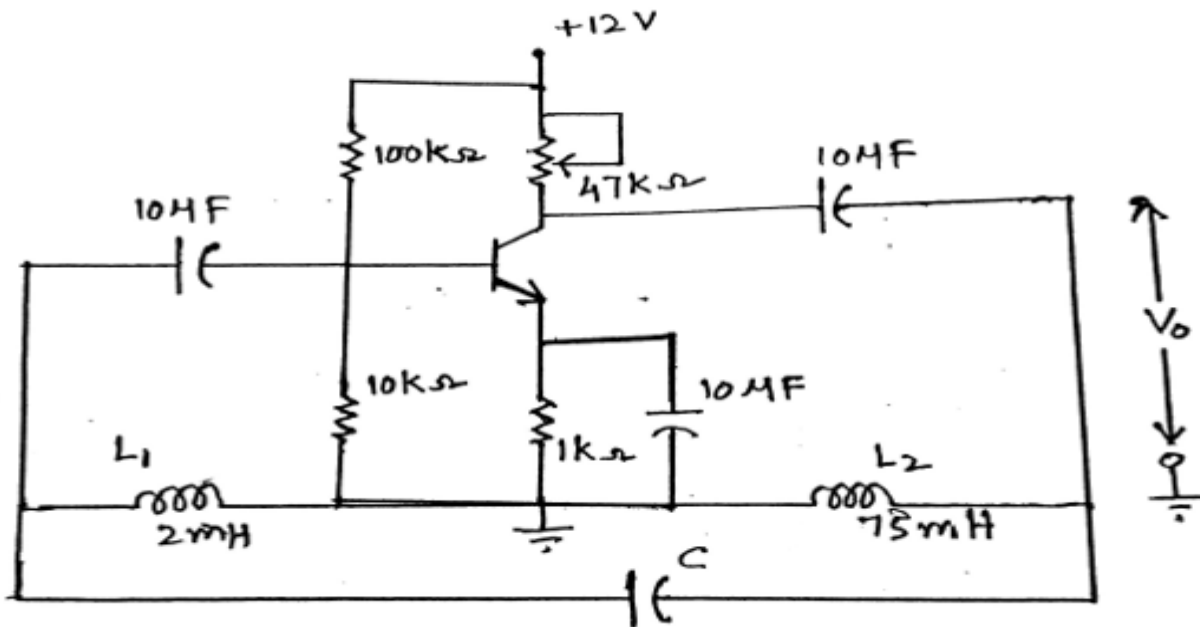

Fig. 1: Hartley oscillator
- 1) Complete the circuit as shown in Fig. 1, by connecting the capacitor C1 provided on panel of the trainer.